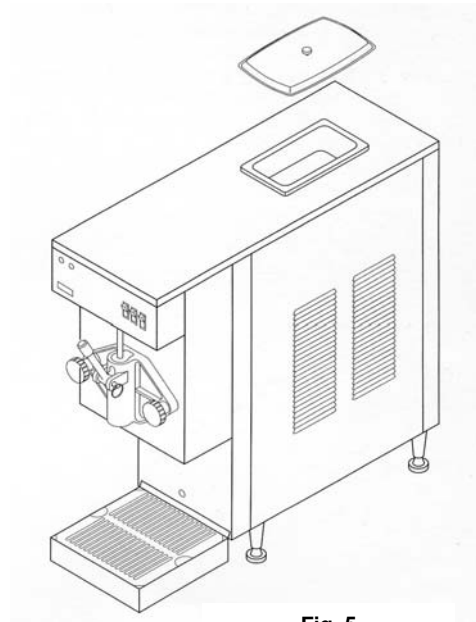

Fig. 5
1. Remove the mix pan cover (Fig. 5).